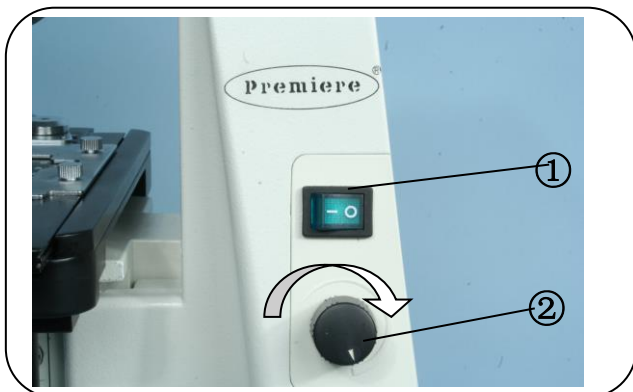

Fig. 1.
1. Brightness adjustment (Fig. 1.)